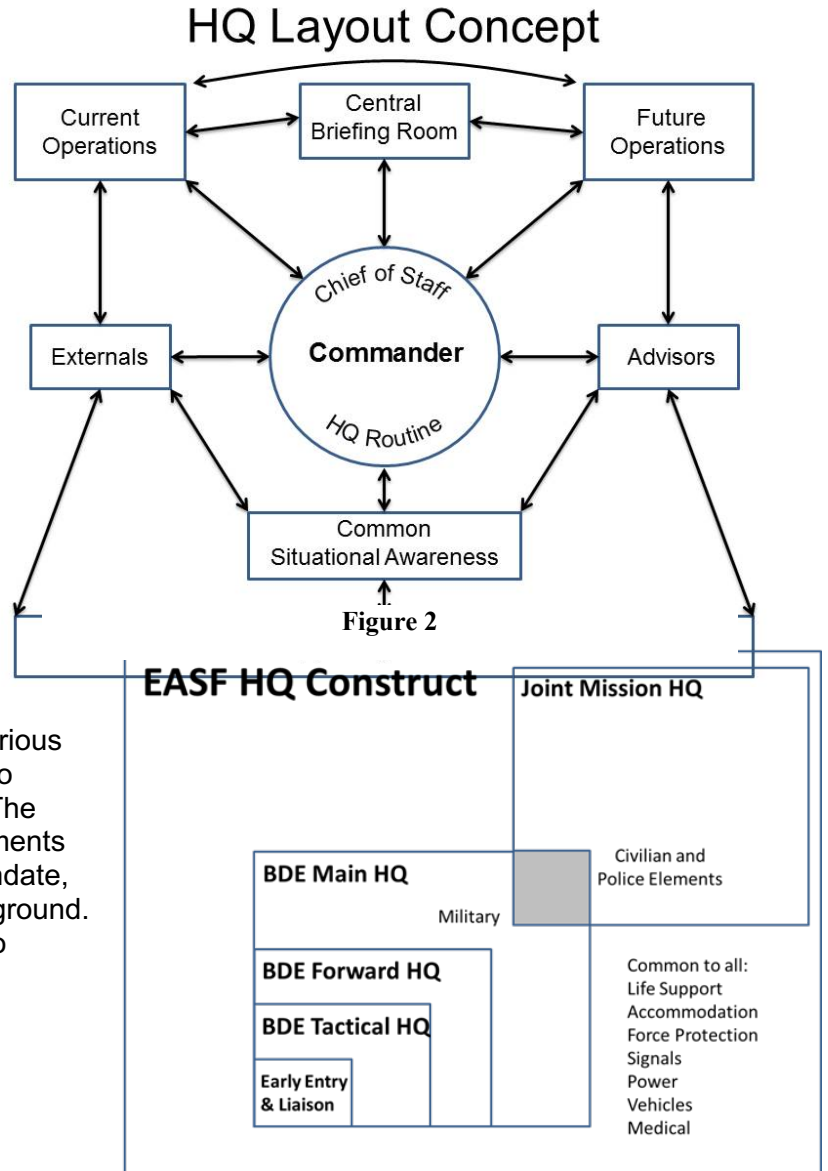
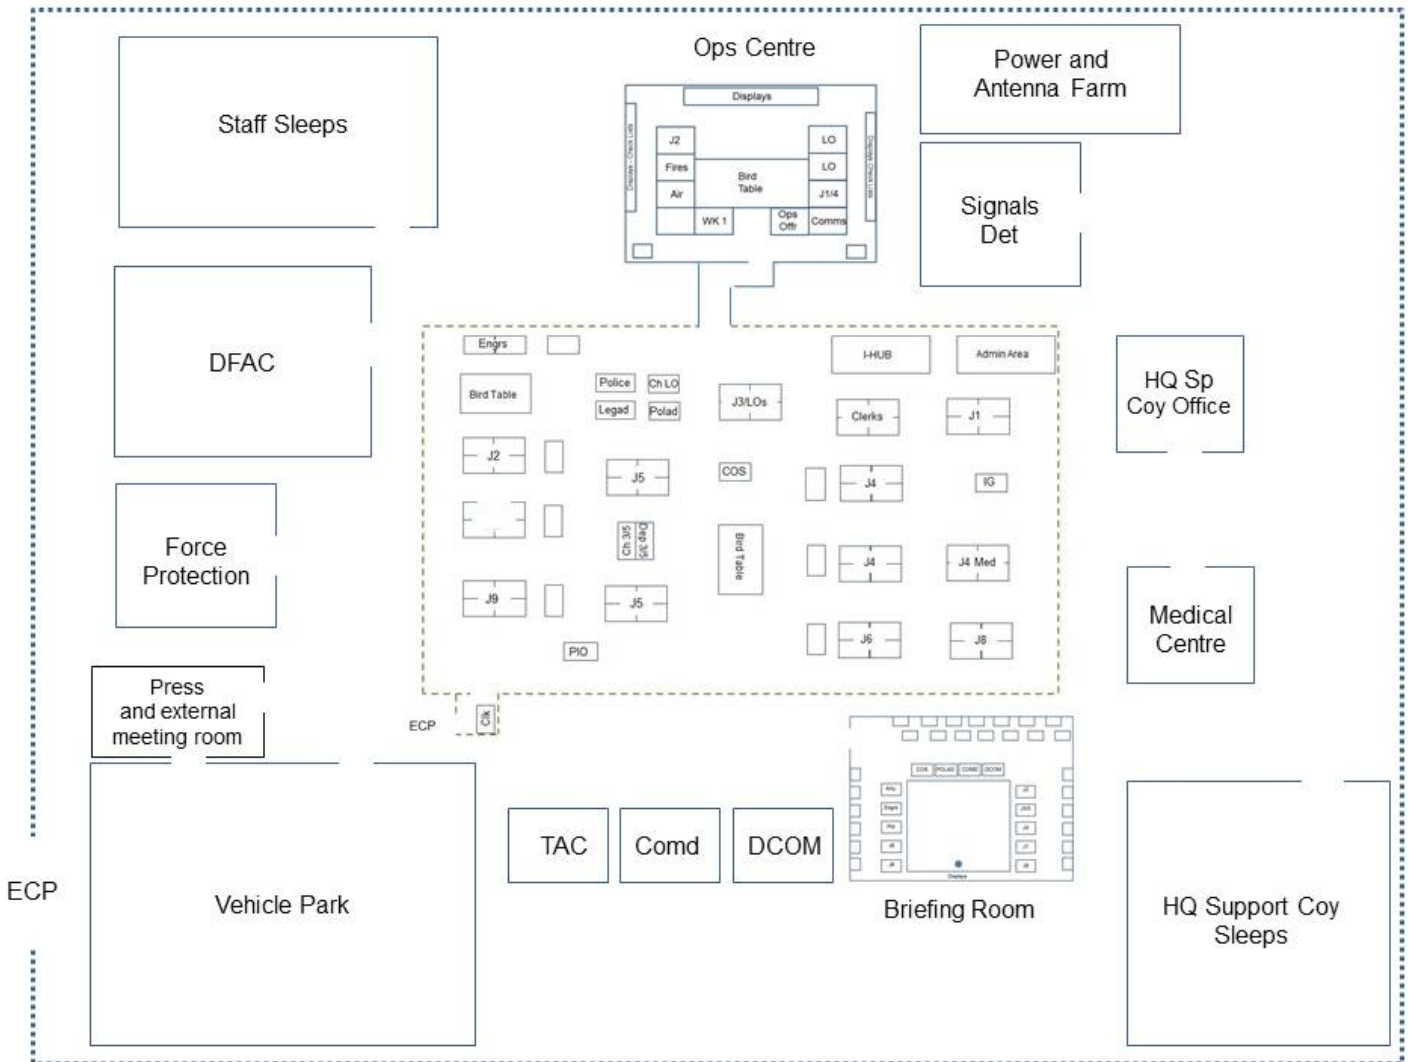

Figure 9
Figure 10
2. **FORCE HQ Design Concept.** The layout of the Force HQ must aid the flow of information and integrate the staff branches shown above at Figure 9 while allowing sufficient space to conduct planning and operations. This is shown conceptually at Figure 10